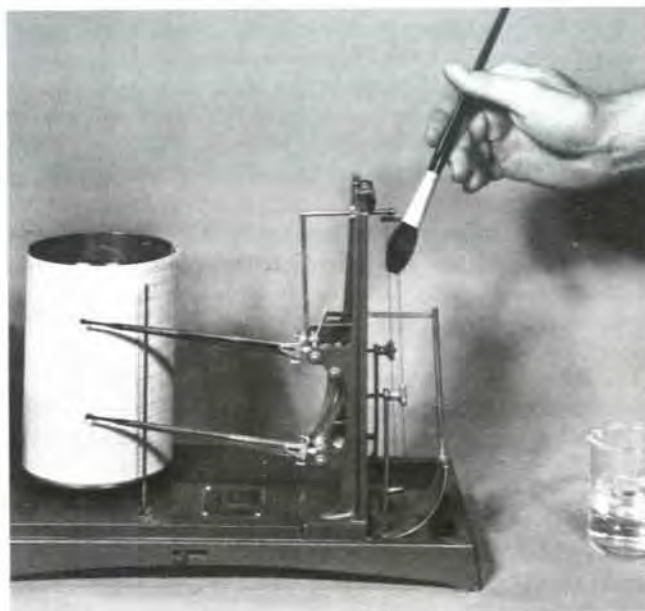

Figure 30.16—After saturating hair element with a soft camel's hair brush, the humidity pen should indicate between 91 and 95 percent relative humidity.
3. Dip a soft camel's hair brush in clean, distilled water. Gently stroke the humidity hairs upward on both sides until they are immersed in a continuous stream of water (fig. 30.16). Keep the water container close to the hairs. Continue this procedure until the humidity pen has reached its highest position on the recording chart.
7. Set the humidity pen at 93 percent, using the thumbscrew (H) adjustment.